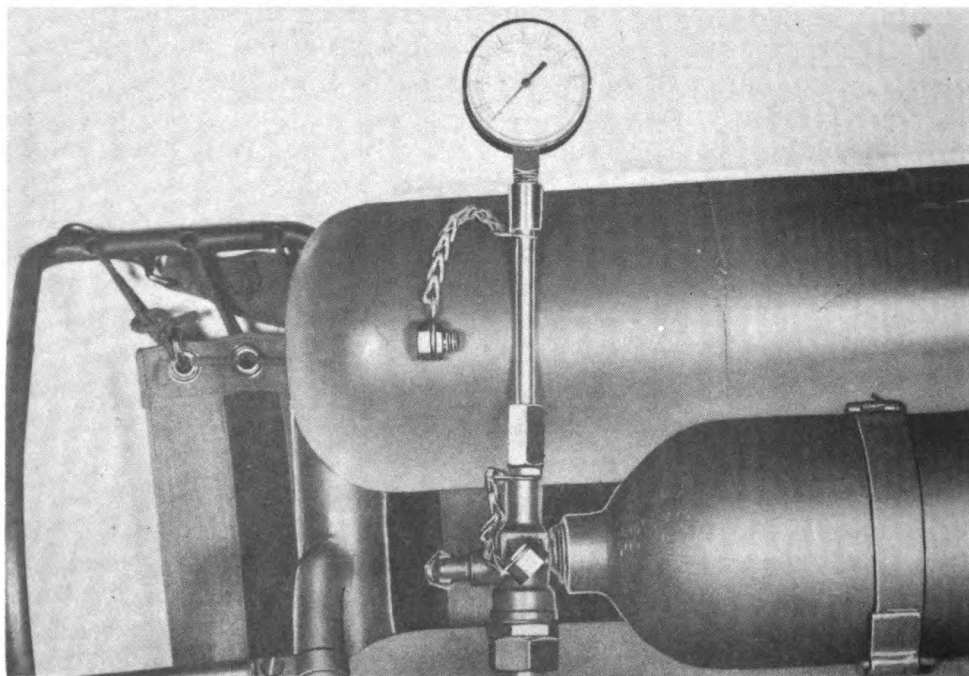

Fig 32. Testing pressure tank and valve, using 0-3,000-pound testing gage from service kit.
- 2 Gages, pressure cylinder testing, assembly B81-6-90. (Fig 32)
i. Atomizer hole. With the fuel valve held fully open, insert a fine wire in the atomizer hole of the nozzle to clean the hole. Then use cloth-wrapped splint to remove from the inside of the nozzle any foreign matter pushed through the atomizer hole. If such matter is not removed, it may interfere with the closing of the fuel valve needle at the nozzle. Repeat procedure in e (2) above.
d. Testing for leaks in pressure system. After charging, and as few hours as possible before a mission, use an 0-3,000-pound gage furnished in service kit to test pressure. (Fig 32) To install gage, unscrew check-valve cap and screw gage in check-valve body. If pressure has fallen below that to which the tank was charged (Par 32), a leak is indicated. Remove gage, replace check-valve cap, and check for leaks at joints between pressure tank and valve and between tank valve and check valve. (A wrench should be used to tighten cap on check-valve body so as to avoid producing an additional leak.) Large leaks can be felt or heard. Small leaks can be detected by coating joints with soap-and-water solution. Bubbles indicate leaks. If a leak is revealed between